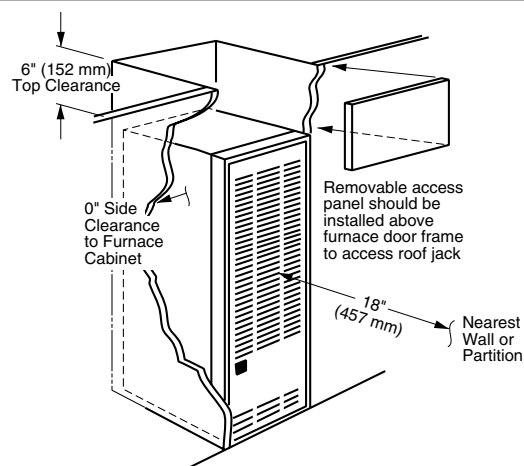
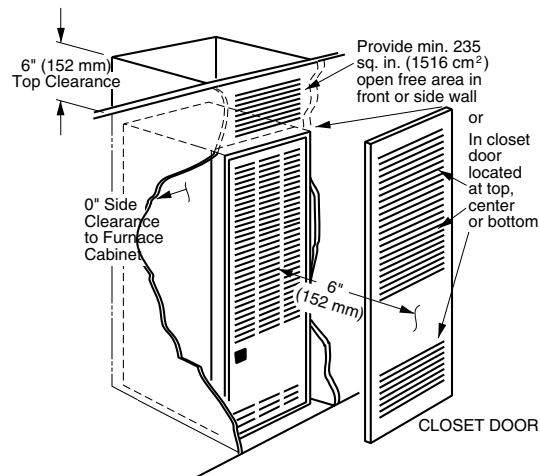
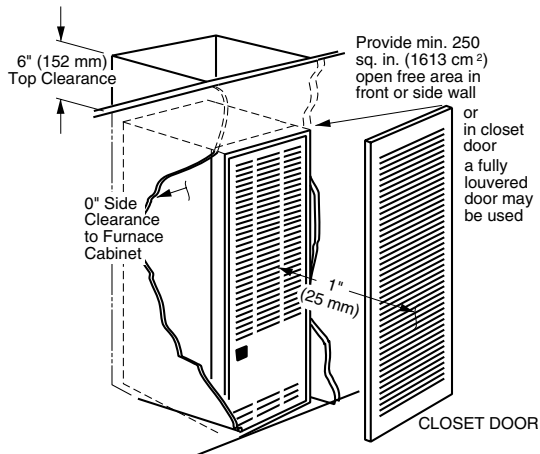

Figure 1. Alcove Installation
Figure 2. Closet Installation
Figure 3. Special 1" Clearance
This heating appliance must be installed with clearances not less than the minimums listed in Table 1, \(page 6\). This furnace must be installed with ample clearance for easy access to the air filter, blower assembly, burner assembly, controls, and vent connections. See Figure 1, Figure 2, and Figure 3 \(page 6\).
- The furnace shall be appropriately located to the supply and return air distribution system (page 7). Sides and back of the furnace may be enclosed by wall framing. See Minimum Clearances and Figure 1, Figure 2, and Figure 3 \(page 6\).
- The dimensions of the room or alcove must be able to accommodate the overall size of the furnace and the installation clearances listed in Table 1, \(page 6\) and Figure 1 \(page 6\)